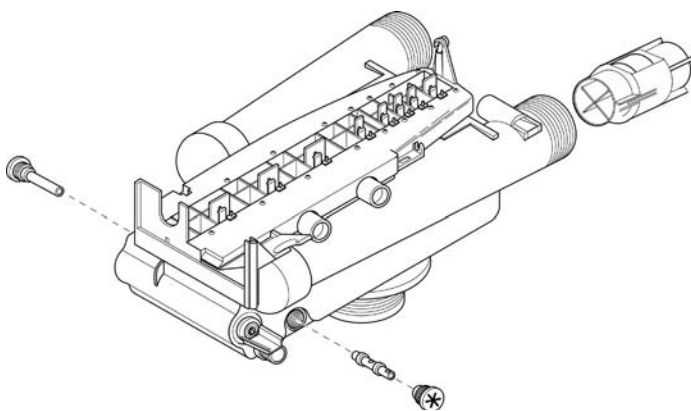

Figure 14: Removing injector screen and injector cap
4. Using a screwdriver, remove injector screen and injector cap (Figure 14).
4. Using a needle-nose pliers, remove the turbine from the outlet housing. Grasp one of the four vanes of the outer gland and pull straight out to remove turbine assembly from the outlet of the valve (Figure 14).